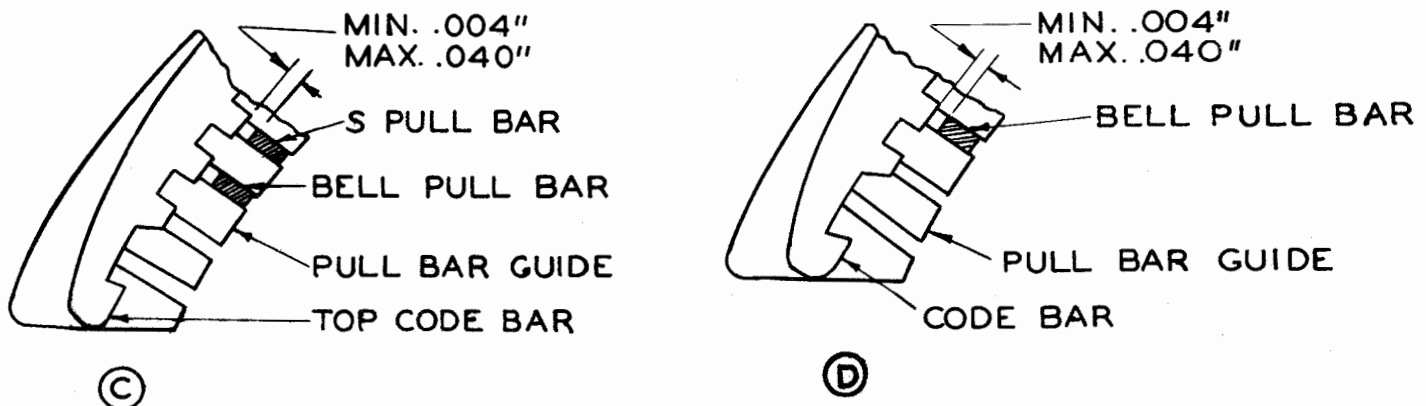

Figure 19
- (a) With the platen in the FIGS position, select the Blank combination and rotate the main shaft until the main bail is in its uppermost position. Adjust the pullbar-lockout lever so that the S pullbar clears the codebars by minimum 0.004 inch, maximum 0.040 inch. With the platen in the LTRS position there shall be minimum 0.004 inch, maximum 0.040 inch between the BELL pullbar and the codebars. Reposition the pullbar lockout lever if necessary. [See Figures 19(C) and 19(D).]